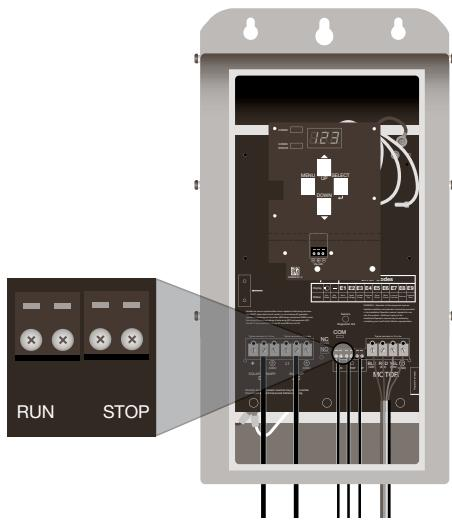

Figure 9: Control Switch Wiring Connection
2. Connect the cables from the "RUN" control switch to the Terminal Block labeled "RUN" (Figure 9).